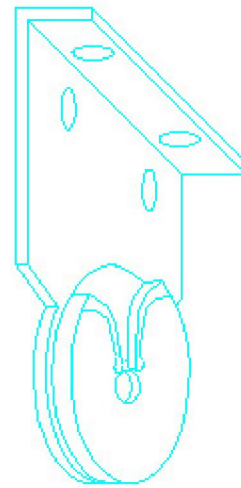

Figure 6
- f. One Back Shelf (Figure 6)